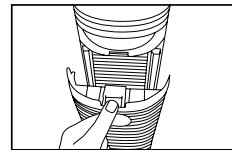

Fig. 5
1. Open the rear grill by gently pushing down on the tab on the top of the grill plate. Fig. 5
2. Open the plate outward until the tabs at the bottom of the grill plate easily slide away from the unit. Fig. 5